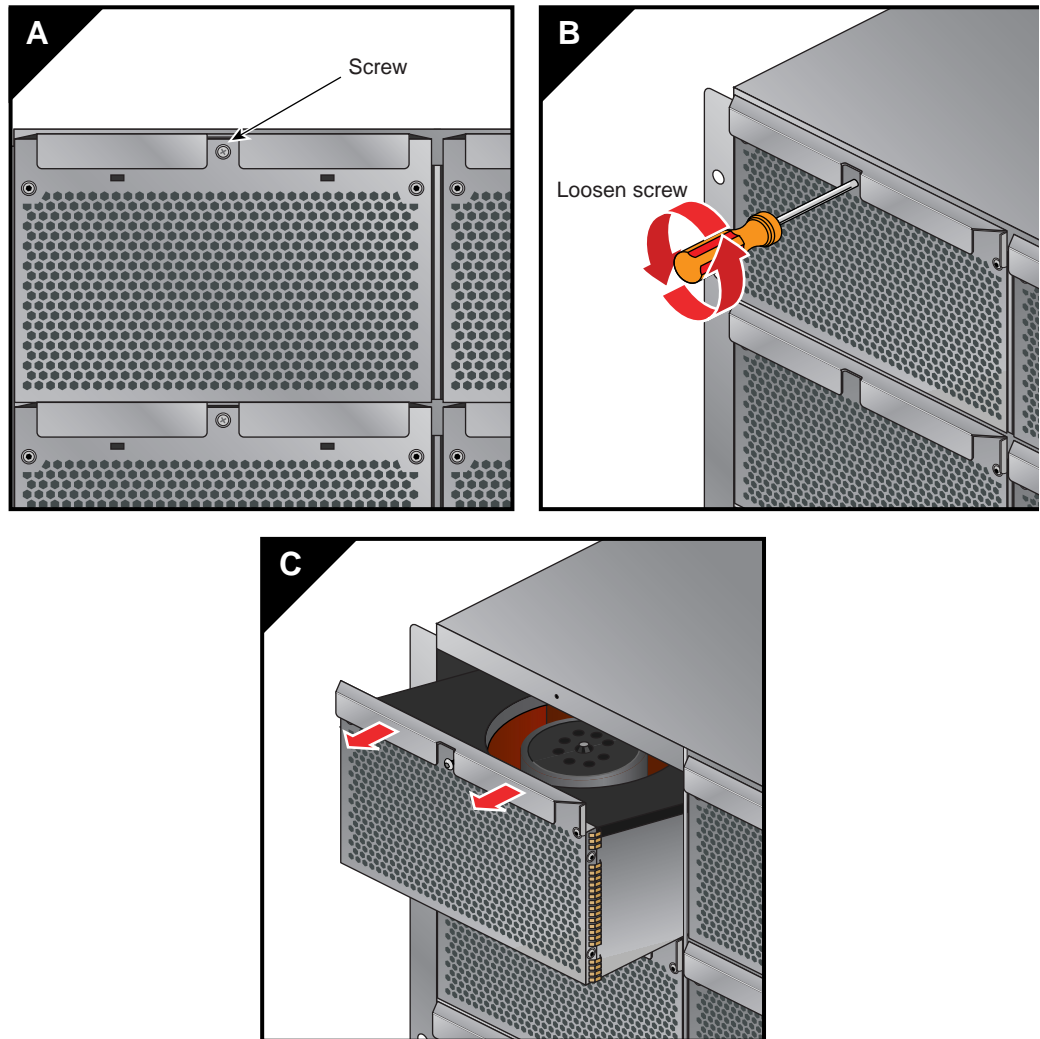

Figure 7-4 Removing a Fan From the Rear Assembly
1. Using the #1 Phillips screwdriver, undo the (captive) screw (located in the middle of the blower assembly handle). The handle has a notch for the screw access, see Figure 7-4.